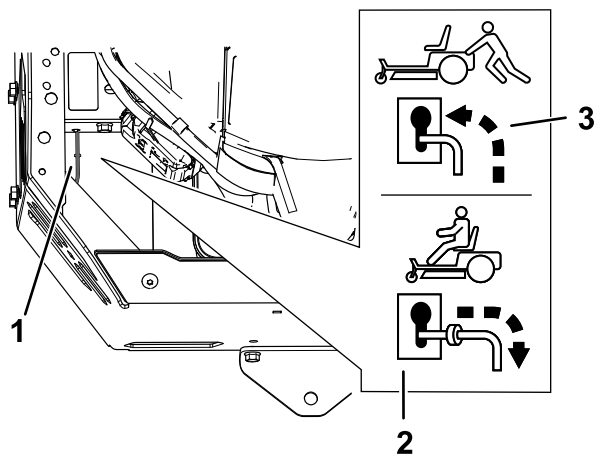

Figure 27
4. Move the bypass levers forward through the key hole and down to lock them in place (Figure 27).
Move the bypass levers rearward through the keyhole and down to lock them in place as shown in Figure 27.